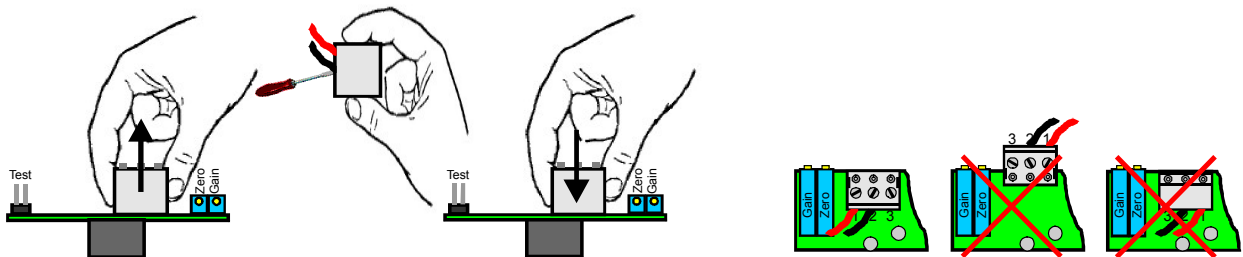

Fig. 3 Electric connection
- Plug in the socket board correctly. See fig.3.
Socket board not plugged in correctly	Plug in the socket board acc. to fig.3.